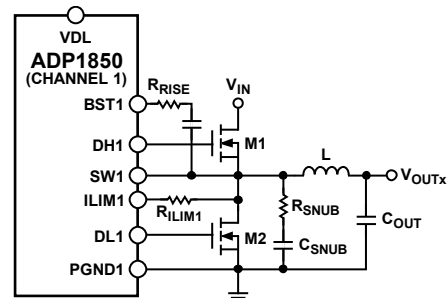

Figure 35. Application Circuit with a Snubber
In any high speed step-down regulator, high frequency noise (generally in the range of 50 MHz to 100 MHz) and voltage overshoot are always present at the gate, the switch node (SW), and the drains of the external MOSFETs. The high frequency noise and overshoot are caused by the parasitic capacitance,  $C_{GD}$ , of the external MOSFET and the parasitic inductance of the gate trace and the packages of the MOSFETs. When the high current is switched, electromagnetic interference (EMI) is generated, which can affect the operation of the surrounding circuits. To reduce voltage ringing and noise, it is recommended to add an RC snubber between SWx and PGNDx for high current applications, as illustrated in Figure 35.
In most applications, a component size 0805 for  $R_{SNUB}$  is sufficient. However, the use of an RC snubber reduces the overall efficiency, generally by an amount in the range of 0.1% to 0.5%. The RC snubber does not reduce the voltage overshoot. A resistor, shown as  $R_{RISE}$  in Figure 35, at the BSTx pin helps to reduce overshoot and is generally between 2  $\Omega$  and 4  $\Omega$ . Adding a resistor in series, typically between 2  $\Omega$  and 4  $\Omega$ , with the gate driver also helps to reduce overshoot. If a gate resistor is added, then  $R_{RISE}$  is not needed.